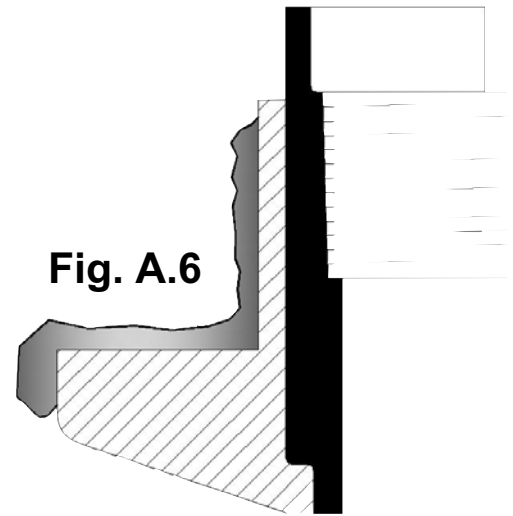

Fig. A.6
**A.6** - Mix two bags of provided fiberglass filler per 8oz can of fiberglass adhesive and apply to the exposed flange face and side walls. (Fig. A.6)